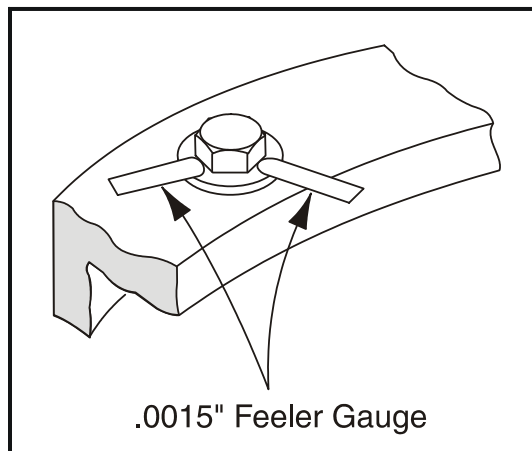

Figure 3-62. Swing Bolt Feeler Gauge Check
- b. At the positions indicated on Figure 3-62. try to insert a 0.0015 in. feeler gauge between the bolt and hardened washer at the arrow indicated position.
- d. At the position indicated on Figure 3-62., try and insert the 0.0015 in. feeler gauge between the bolt head and hardened washer at the arrow indicated position.